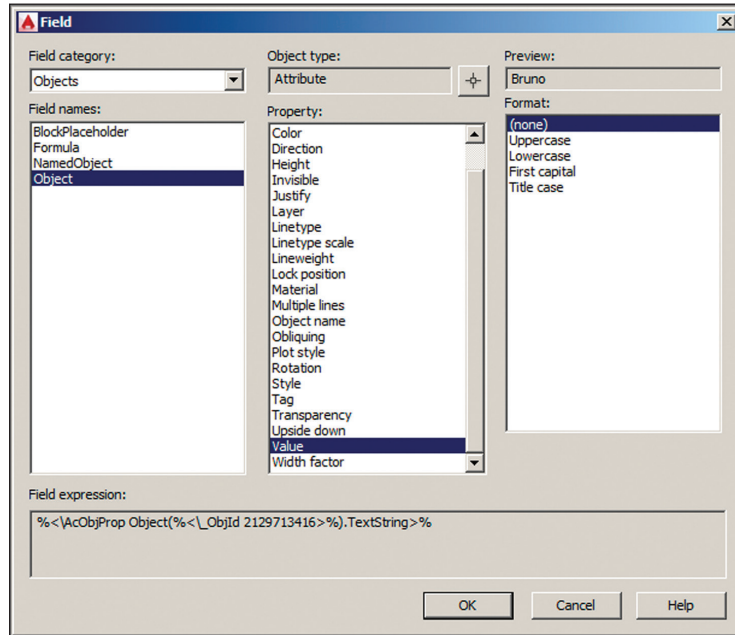

FIGURE 15.22 Accessing the attribute value in the Field dialog box
- In the Property list that appears, select Value (see Figure 15.22). Click OK. The word *Bruno* appears in table cell A3.